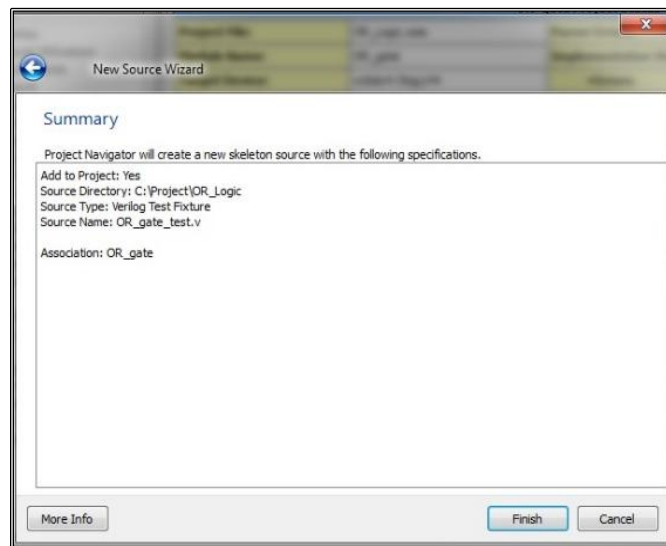

Fig 1.16: Summary window
18. Now in the Summary window verify the test bench summary and click Finish (Fig 1.16).